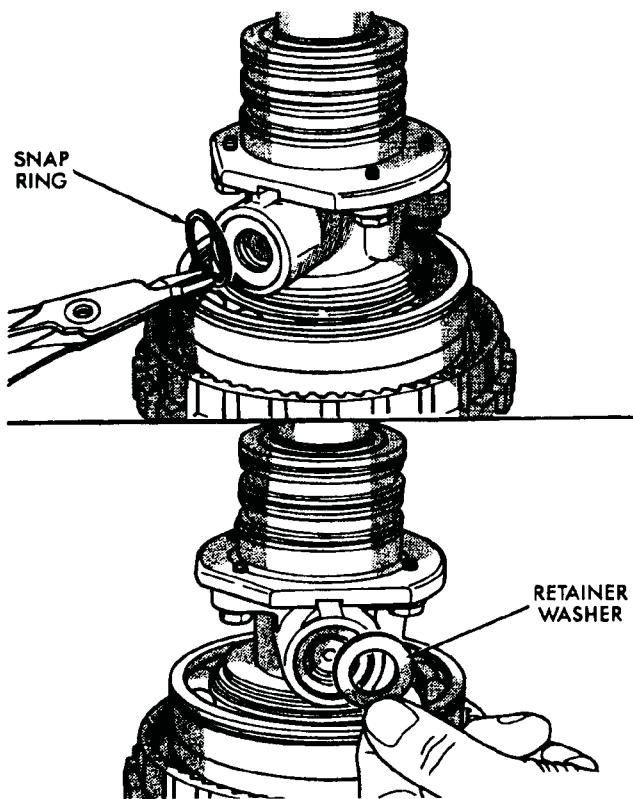
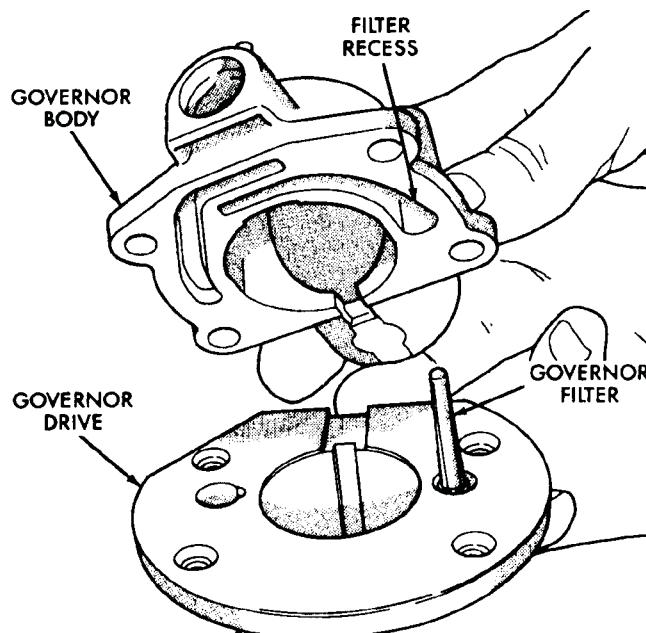
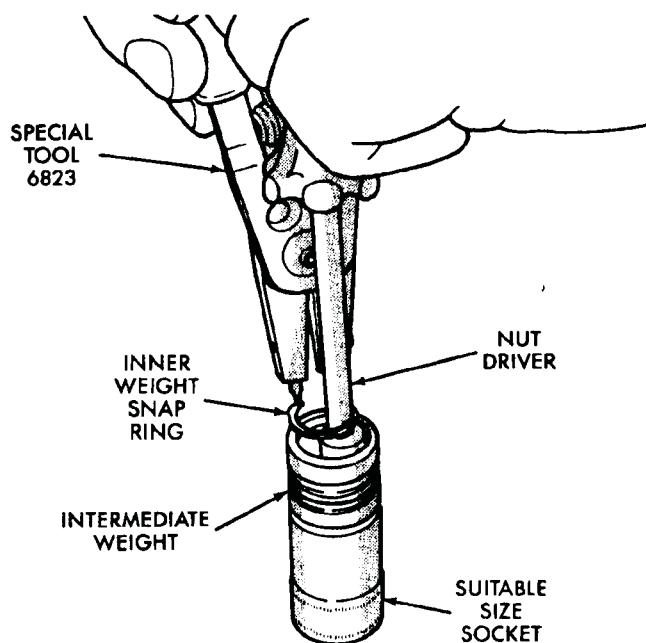

Fig. 38 Governor Weight Retainer Washer And Snap Ring Removal
Fig. 40 Governor Body And Filter Position (On Drive)
Fig. 41 Inner Weight Snap Ring Removal/Installation
- (1) Remove snap ring and washer that retain governor weight assembly in governor body (Fig. 38).
- (2) Remove governor weight assembly from governor body.
- (3) Note position of governor body on drive.
- (4) Clamp edge of governor drive in vise and loosen governor body bolts.
- (5) Remove bolts attaching governor body to drive.
- (6) Remove governor body (Fig. 40).
- (7) Remove filter from governor drive. Note position of filter for assembly reference (Fig. 40).
- (8) Disassemble governor weight:
- (b) Position intermediate weight on suitable size socket (Fig. 41).
- (c) Press inner weight downward with nutdriver or similar tool (Fig. 41). Then remove inner weight snap ring with Plier Tool 6823 (Fig. 41).
- (2) Insert filter in governor drive. Filter goes in hole to right of key slot as shown in Figure 40.
- (3) Align and position governor body on drive. Be sure filter is seated in recess in governor body (Fig. 40).
- (4) Install and tighten governor body bolts snug but not to specified torque at this time.